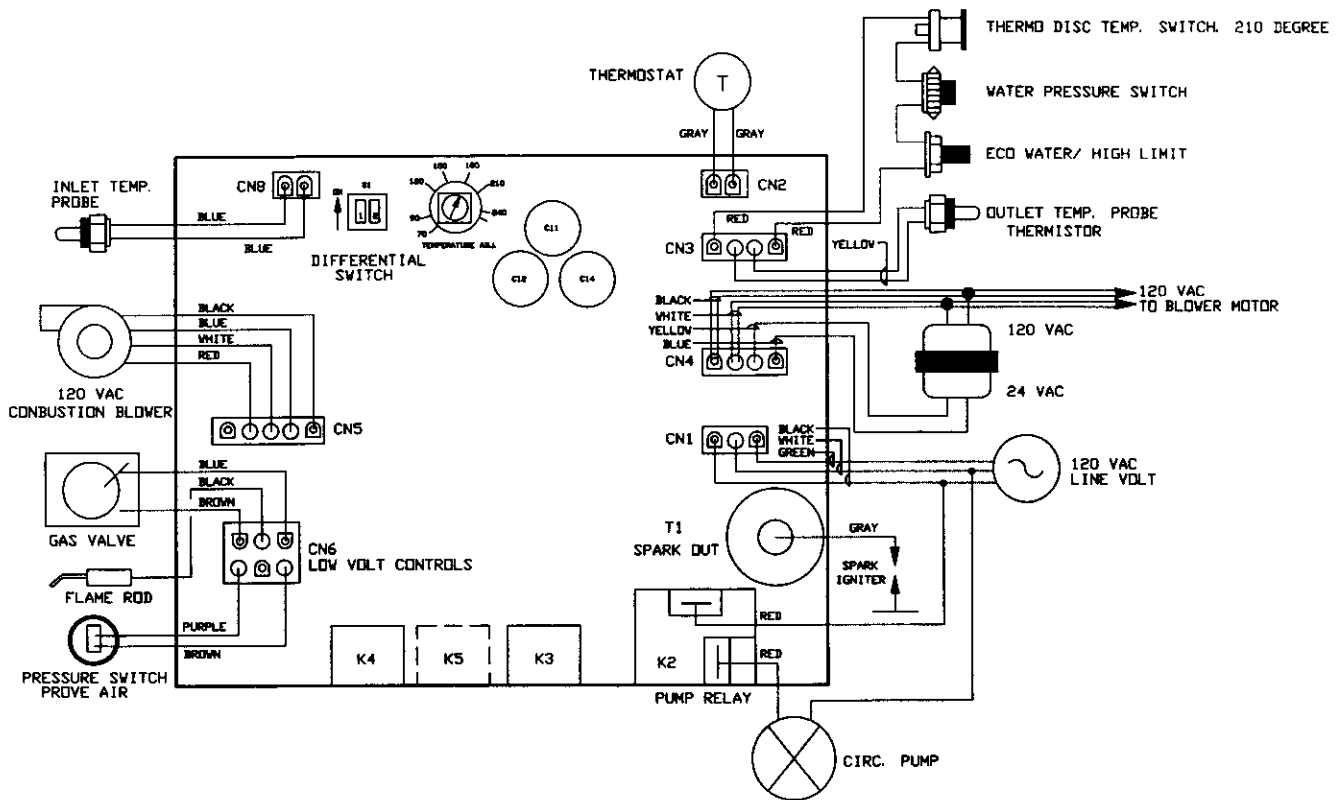

Figure 17: Boiler Control Board Factory Wiring
9. The boiler control board and factory wiring are shown in Figure 17.
11. Use the sequence of operation description and Figure 17 in Section 6 (Electrical) to follow light-off and shutdown sequences and to assist in diagnosing problems. If the boiler does not function properly, consult Section 8, Troubleshooting.